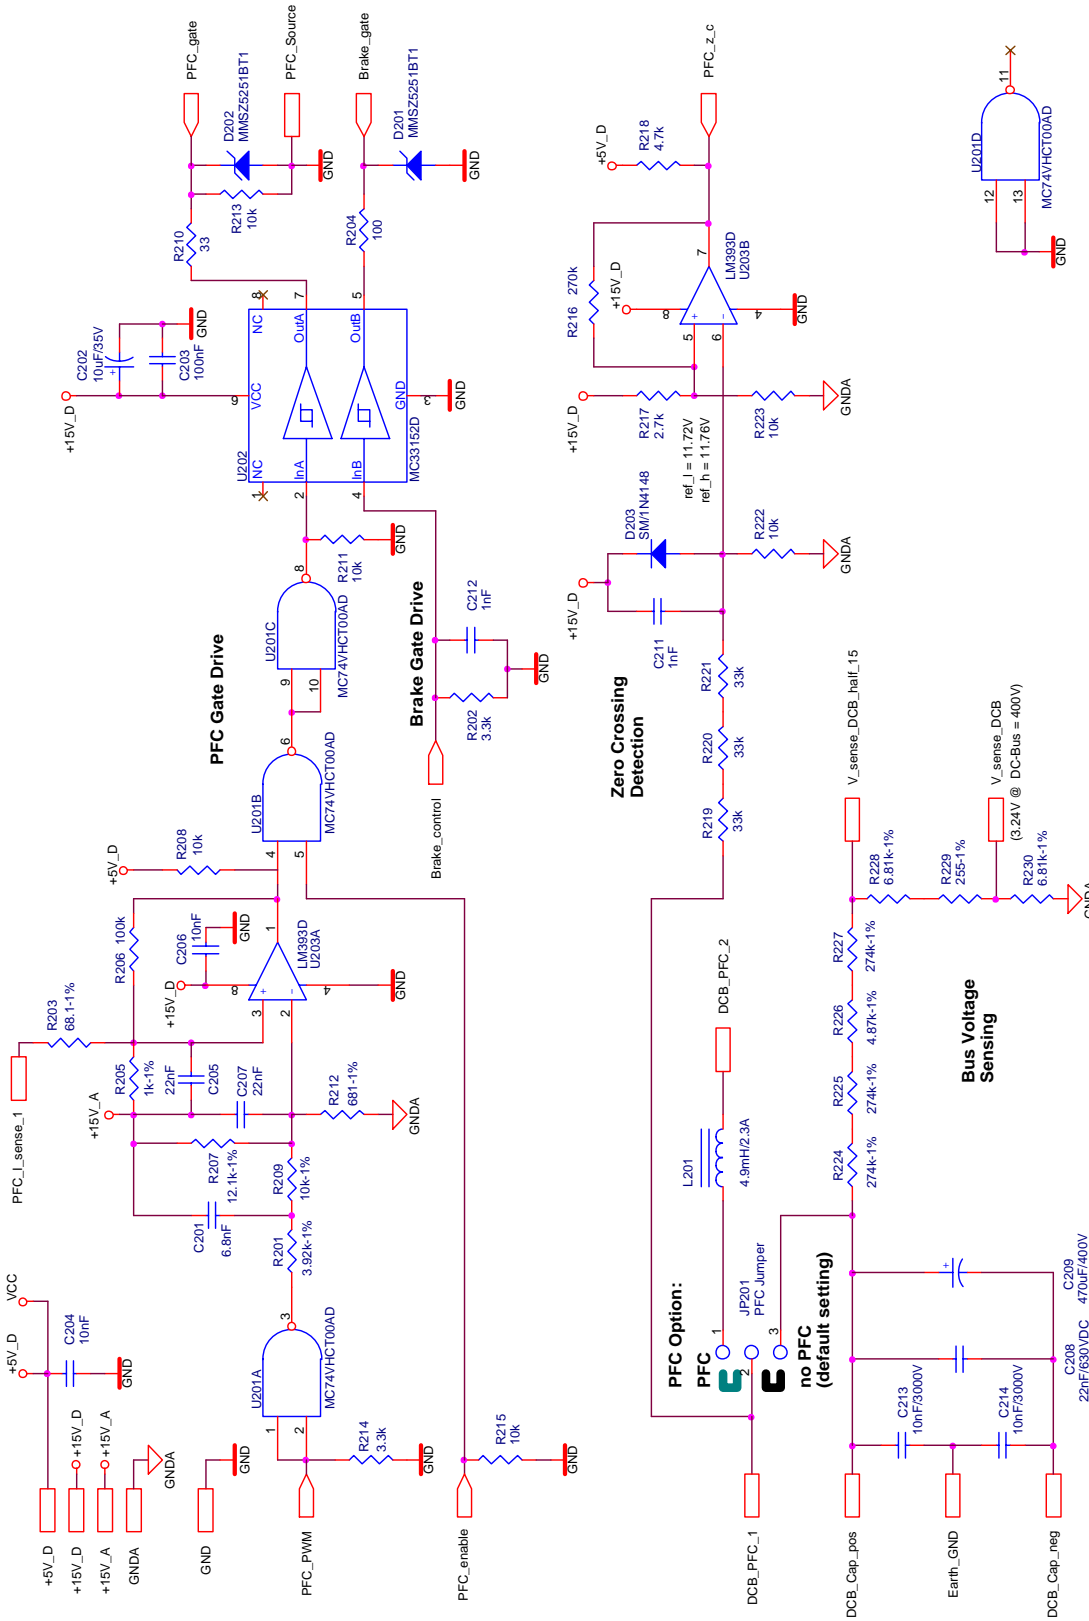

Figure 4-5. Power Factor Correction and Brake Gage Drive
- Power factor correction and brake gate drives are shown in Figure 4-5.